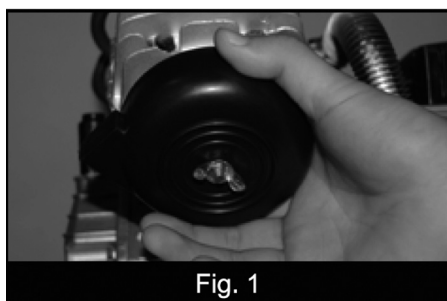

Fig. 1
2. Screw on the air filter.(fig.1)